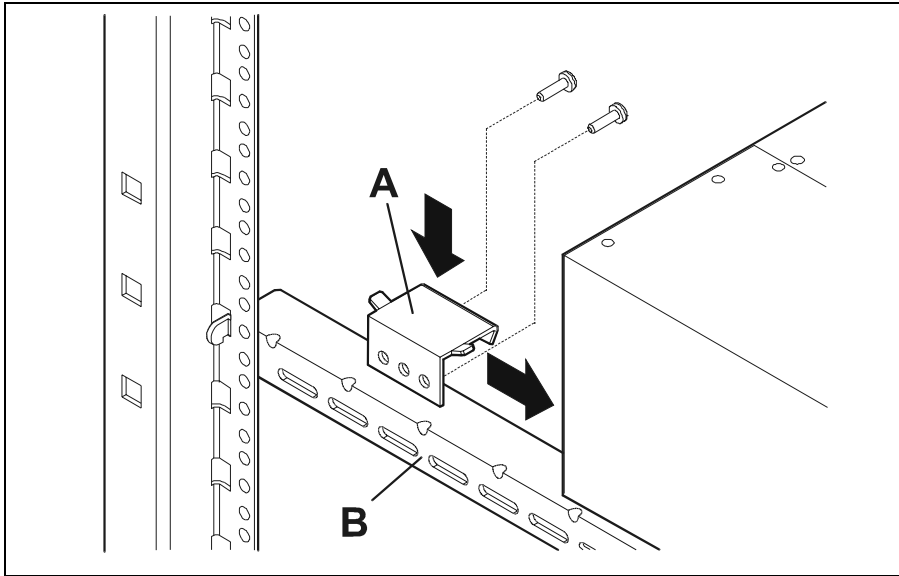

Figure 26 Legacy Rack Rail Clamp
- a. If you are installing the disk system in an HP legacy rack, set the clamp (A in Figure 26) on top of the rail (B) so that the tabs point up and the screw holes are on the slotted side of the rail. Skip to substep c.